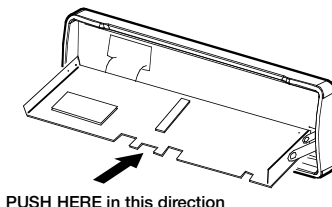

Figure 7 Push the panel mechanism back in
3. Push the panel mechanism back into the housing so it is not protruding. To do so, push the **BOTTOM EDGE** down straight into the unit – do not lift it! **(Figure 7).**